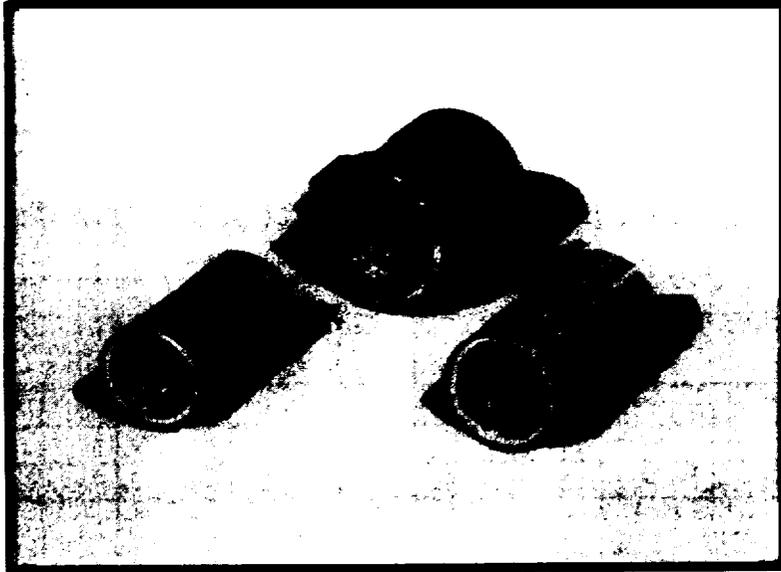

Figure 4-9. Typical sleeve bearings.
(4) *Sleeve bearings.* Sleeve bearings (fig 4-9) are most often used in fractional horsepower motors. For older types of sleeve bearings, the oil should be drained, the bearing flushed, and new oil added at least every year. Newer sealed type sleeve bearings require very little attention since the oil level is frequently the only check needed for years of service.